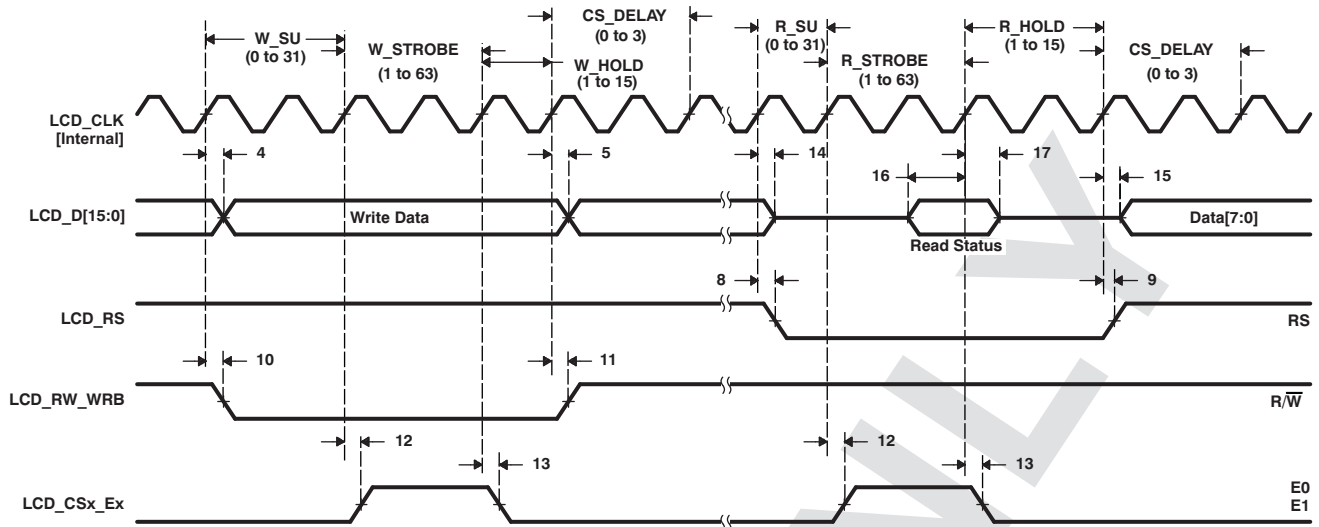
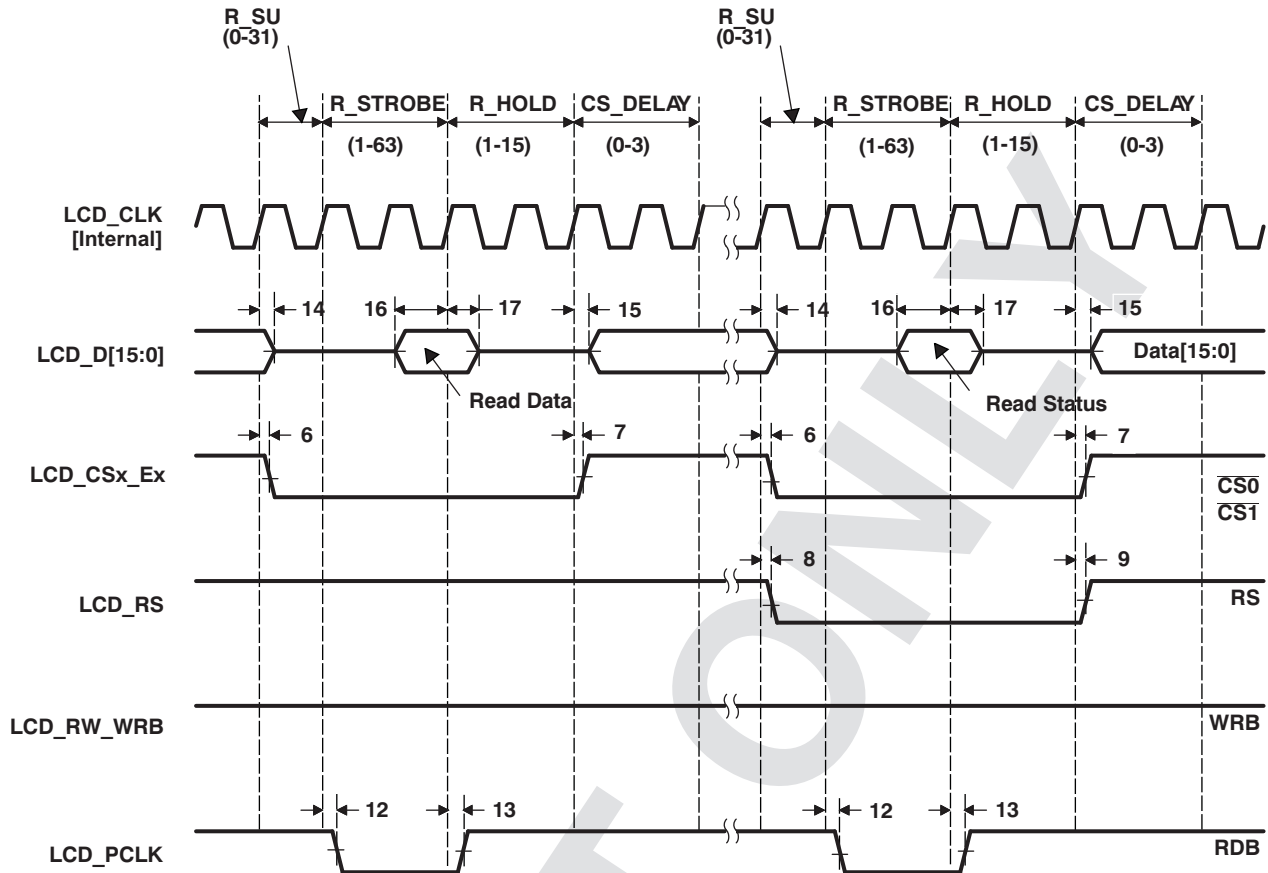

Figure 6-29. Character Display HD44780 Write
Figure 6-36. Micro-Interface Graphic Display 8080 Status
**Table 6-40. Timing Requirements for LCD LIDD Mode(1) (see Figure 6-29 through Figure 6-36)**
(1) Over operating free-air temperature range (unless otherwise noted)
**Table 6-41. Switching Characteristics Over Recommended Operating Conditions for LCD LIDD Mode (see Figure 6-29 through Figure 6-36)**